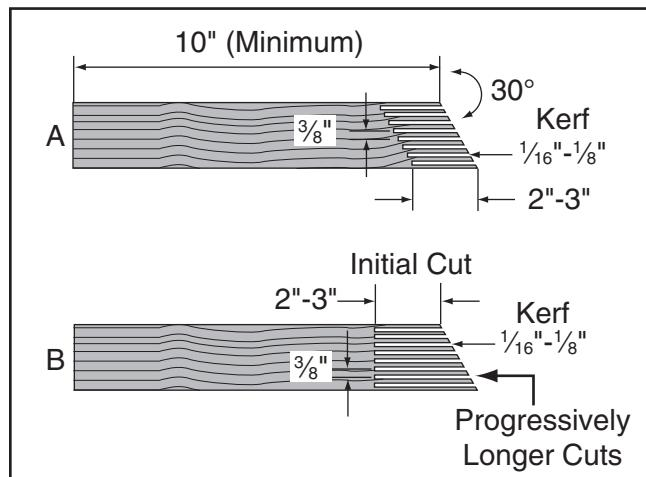

Figure 67. Patterns for featherboards (top view shown).
3. Make a series of end cuts with the grain $\frac{3}{8}$ " - $\frac{1}{4}$ " apart and 2"-3" long, as shown in **Figure 67 (A)**. Alternatively, start cuts at 2"-3" deep, then make them progressively deeper, as shown in **Figure 67 (B)**.